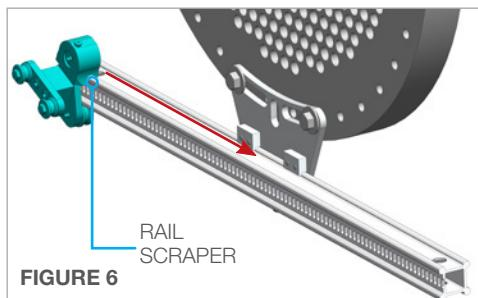

FIGURE 6
- Angle the **Idler Carriage** as shown to allow the Idler Carriage to engage with the lower rail properly. Rotate it back to the vertical position and slide it towards the lower Rail Clamp. **(Figure 6)**